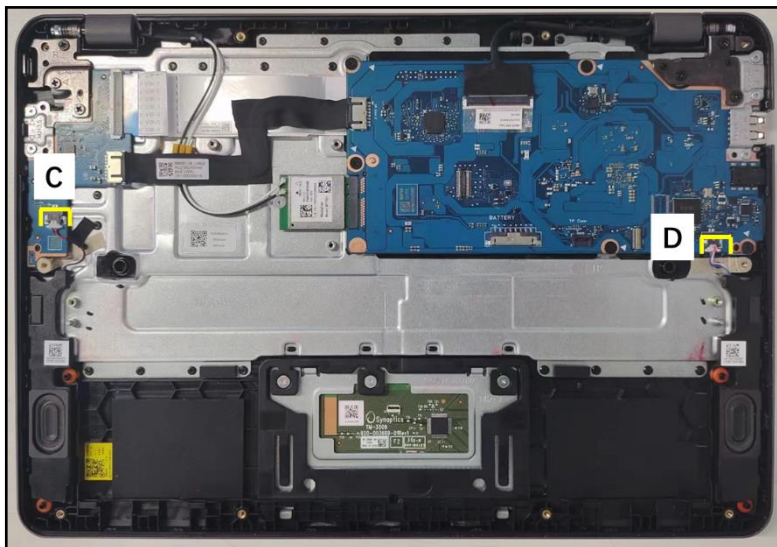

Figure 3-103. Replacing the Speaker Module
2. Connect the speaker R cable to the USB board connector (C) (Figure 3-103).
3. Connect the speaker L cable to the mainboard connector (D) (Figure 3-103).